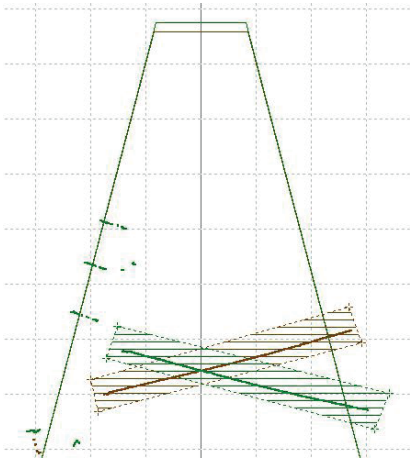

Figure 29: Limit the measurement range for the virtual bottom
- To program in the bottom, select the job "Virtual bottom". Limit the area for the bottom (see Figure 29) and start the measurement. The programmed bottom is now congruent with the virtual bottom.